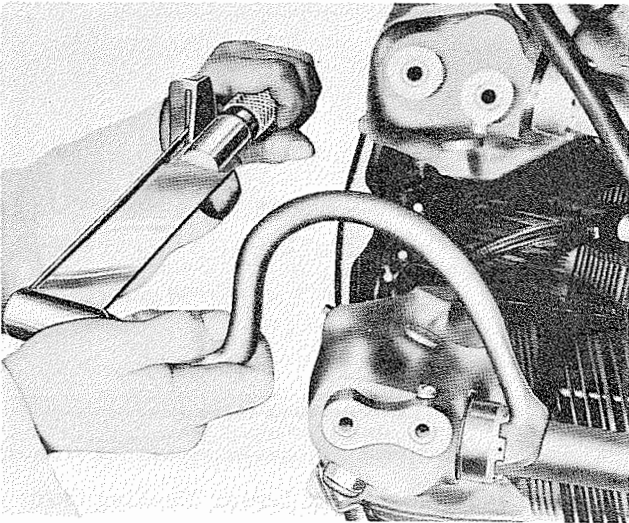

Figure 7-57. Torquing Push Rod Housing Nut at Cylinder
h. Tighten the nut at the cylinder to 400 - 500 inch-pounds using wrench 805964. See figure 7-57.